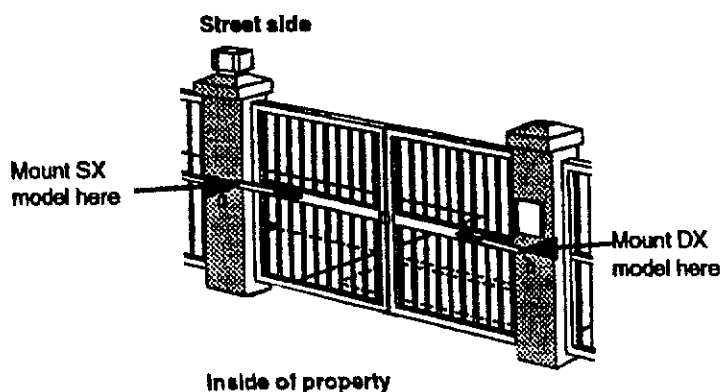

Figure 2. Mount the proper model (SX or DX) on the gate leaf whether the gate swings inward or outward.
- 2 412 Operator units. One is marked SX and one is marked DX. Be sure to install each on the proper gate leaf (see Figure 2).